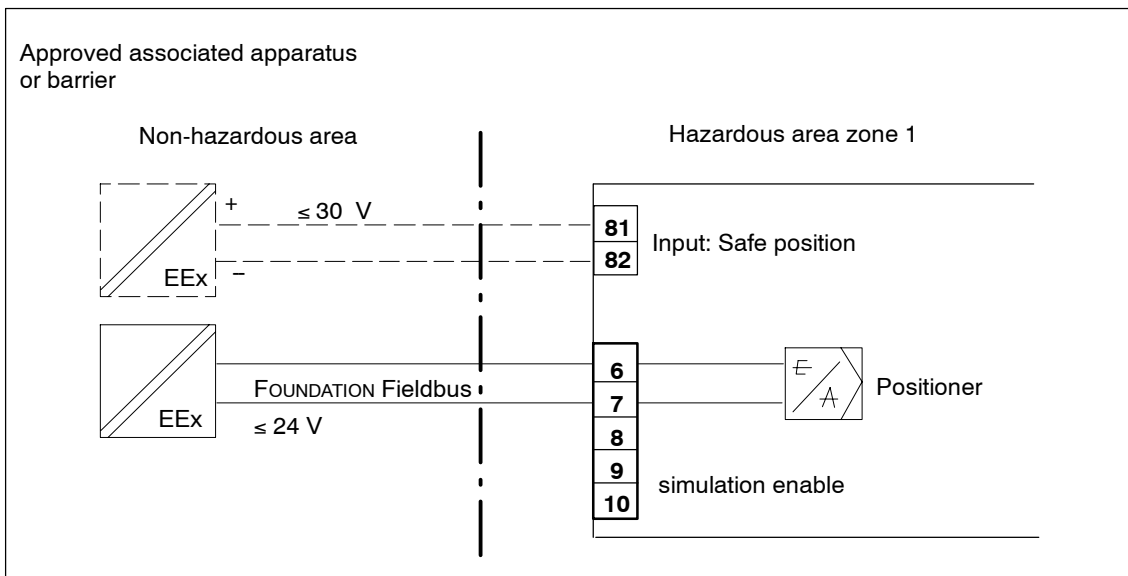
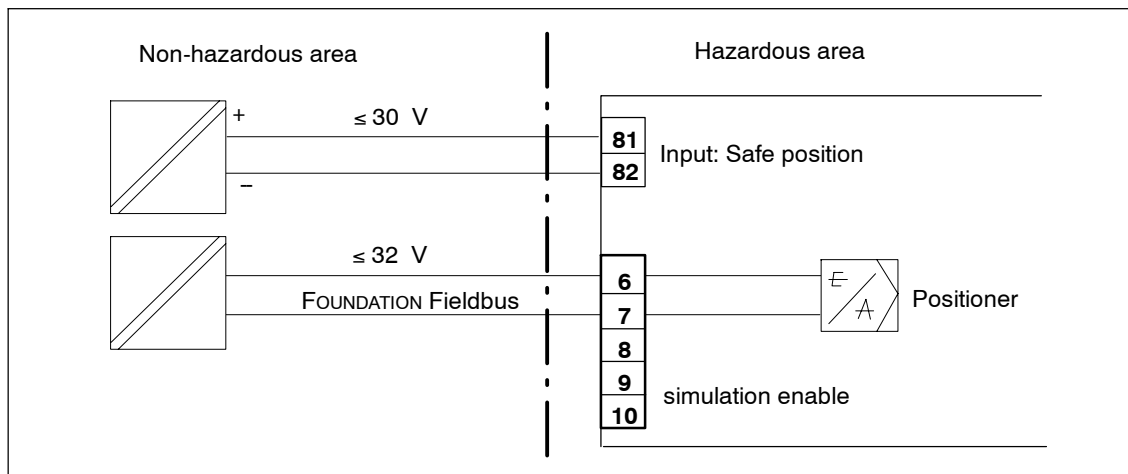

Figure 3-16 Electric connection of basic device with in intrinsically safe version
Figure 3-17 Electric connection for positioner in explosion-proof version or in type of explosion protection "n" version
6. Connect the red and green wires as shown in figure 3-16, page 58 to terminals 3 and 7 of the motherboard (the polarity is immaterial).
4. Connect the positioner to the fieldbus line (figure 3-16, page 58 and figure 3-17, page 58).
5. The positioner is now in the operating mode "**P-manual operation**". The current potentiometer voltage (P) is displayed in percent in the top line of the display, e.g.: "**P12.3**", and "**NOINI**" flashes in the bottom line: